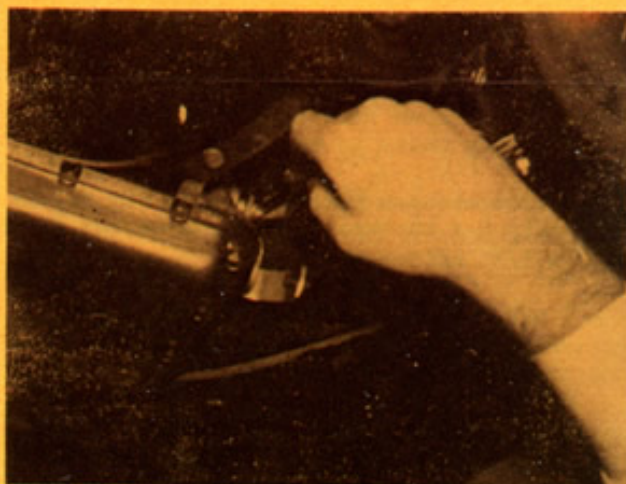

FIGURE 2
4. Gently tap screwdriver wedging the throttle lever outboard until .010" - .015" clearance may be measured with a feeler gauge between the throttle lever and the washer which is between the two levers as shown in Figure 2.